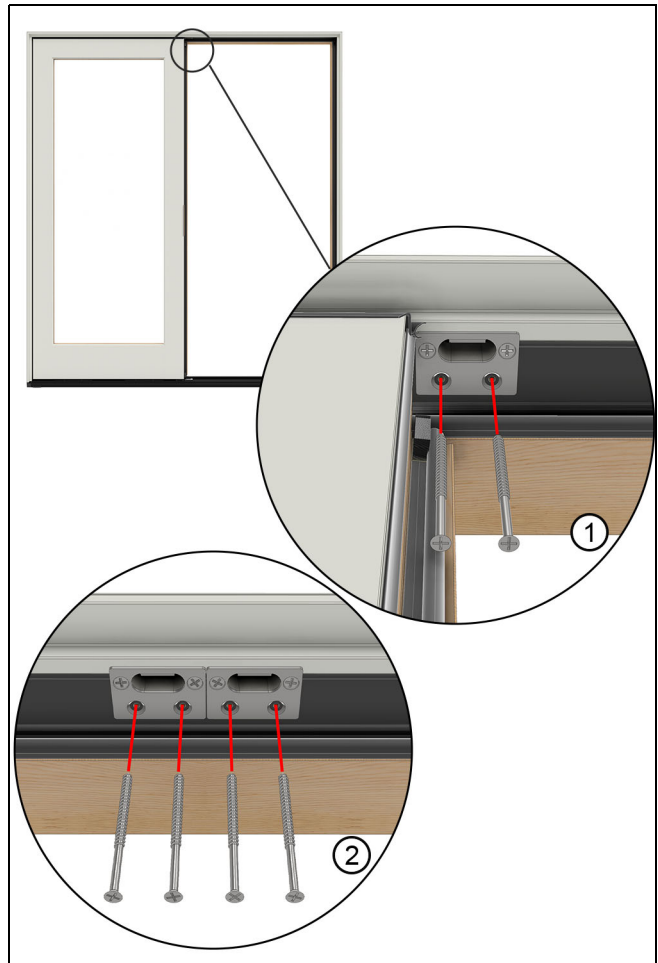

Figure 23 2 1/4" Head jamb strikes
2. 2 1/4" Doors: Replace the innermost screws on the strike with #8 x 3" screws. Drive the screws into the rough opening. If you have an XX door, do this on both strikes. See Figure 23.